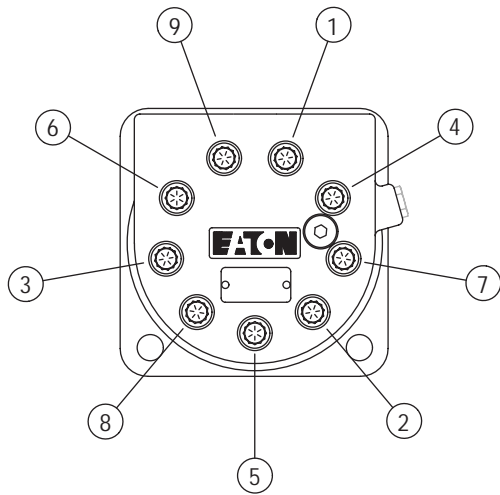

Figure 8
29 Install nine (9) cap screws. Torque to 115-102 Nm [75-85 lb-ft] using crisscross pattern (see Figure 8).